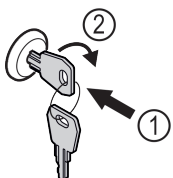

Fig. 123 Example illustration
- Insert key Fig. 123 (1).
- Turn key clockwise by 90° Fig. 123 (2).